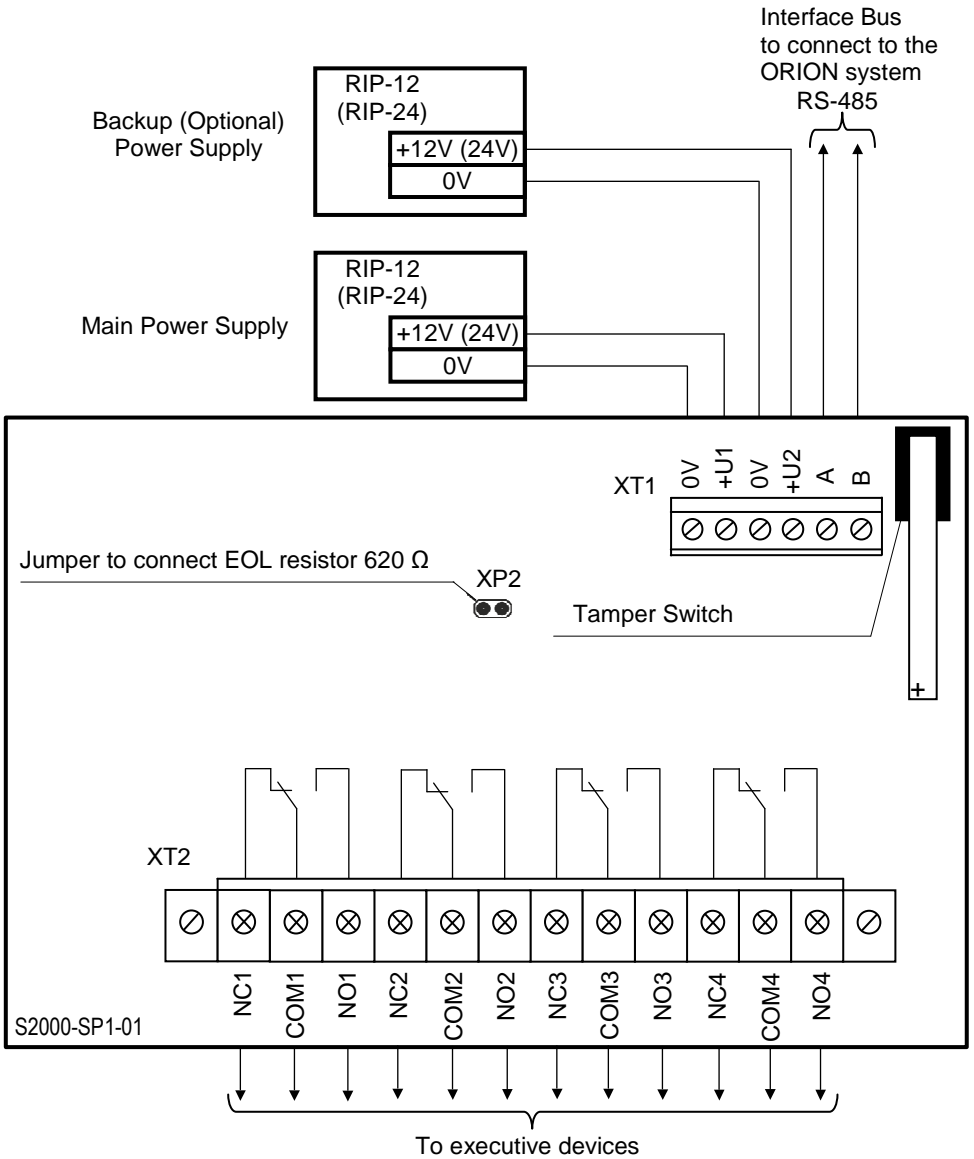

Figure 5. The Module's Wiring Diagram
2.2 Wiring the module is performed in accordance with Figure 5.
4.1.2 Unless the module is the last or the first device in the RS-485 interface bus, remove the XP2 jumper from the module PCB (see Figure 5).